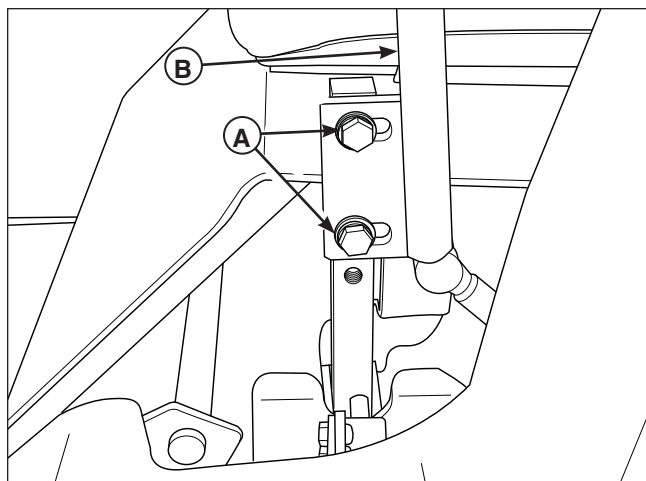

Figure 32. Control Lever Adjustment
Loosen the mount bolts (A, Figure 32) and pivot the lever(s) (B) to align with each other.